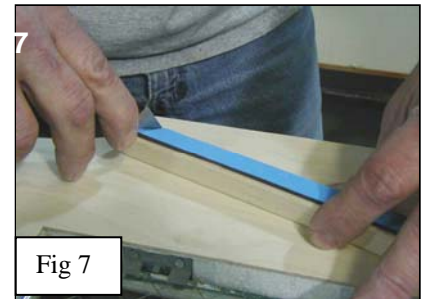

Fig 7
- Attach double sided glazing tape to the back of the veneer wrapped bead, trimming it to match the mitered corners (Fig 7).